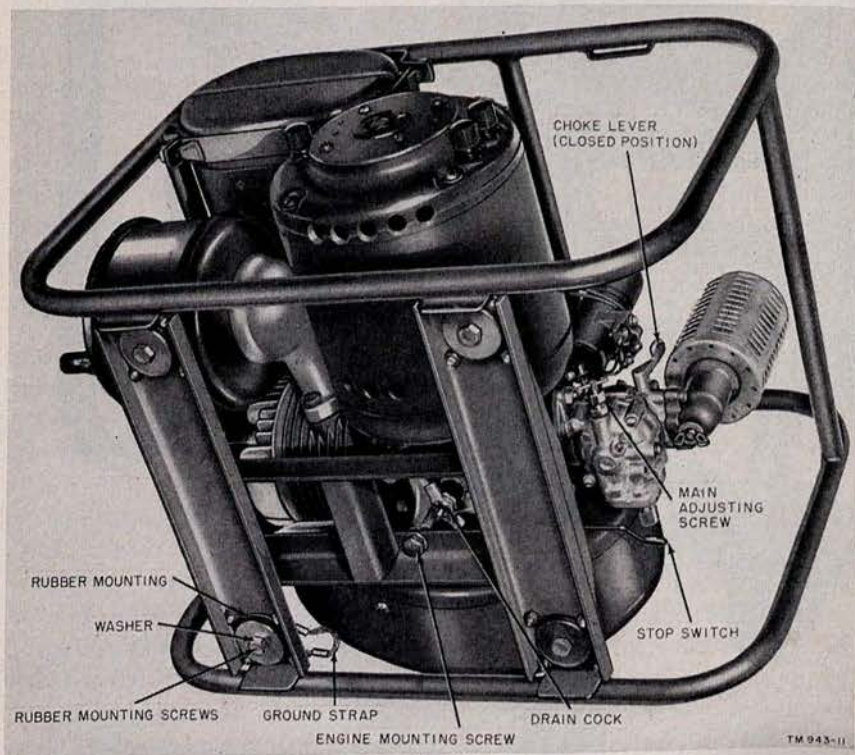

Figure 11. Engine Generator PU-181/PGC-1, bottom view.
Processing of the unit for shipment includes treating the entire internal area of the engine with rust-inhibiting oil and sealing all engine openings. Before setting up the unit, open the drain cock located on the under side of the engine crankcase (fig. 11). Crank the engine a few times to clean out the crankcase thoroughly. Close the drain cock.
- (1) Close the range (high-speed) mixture adjustment screw (fig. 11), taking note of the number of turns so that it can be reopened later to its previous position.
- (2) Open the crankcase drain cock and crank the engine a few times with this cock open (fig. 11).
- (3) Close the drain cock securely.
- (4) Remove, dry, and reinstall the spark plug.
- (5) Repeat the starting operations with the choke in the running position.
- (6) Reset the carburetor load range (high-speed) mixture adjustment screw (fig. 11) to previous operating position after the engine has started.